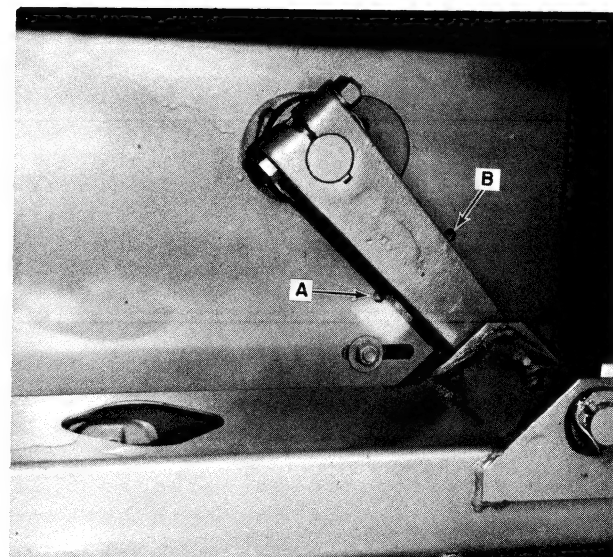
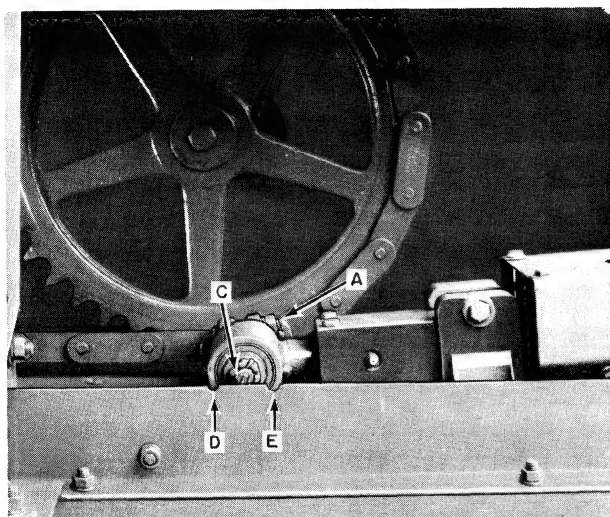
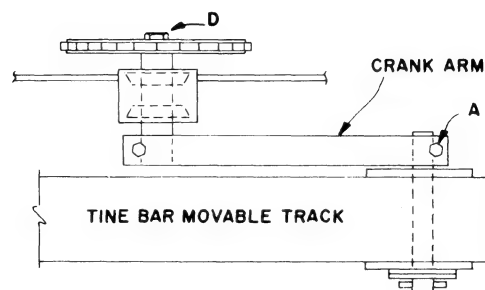

FIGURE 40
FIGURE 44
FIGURE 46
The right end of the tine bar assembly is attached to a crank arm shown in Figure 40. As the tine bar operates the left end follows the drive chain and the right end follows the crank arm.
Turn the flywheel in the direction of rotation until the main crank is in a vertical position between the two marks, A and B, Figure 43. At this time the tine bar drive pin, C, Figure 44, should be between the two timing marks at D and E, on the rear feeder support angle.
If the tine bar driven pin is not between the timing marks as shown in Figure 44, the tine bar assembly is out of time and must be retimed.
4. Move the tine bar into the position shown in Figure 44.
The crank arm must be timed in relationship to the tine bar. When the tine bar drive pin is in the position shown in Figure 44, the crank arm must be in the position shown in Figure 40, between timing marks, A and B. If it is not, remove feeder crank drive chain shown in Figure 38, rotate crank arm to proper position and reinstall chain and tension drive chain.
If the tine bar and the movable track are removed, the tine bar should be removed from the tine bar drive chain by removing the cross bolt, A, Figure 44, from the tine bar drive pin and leaving the pin in the tine bar. The right end should be removed by removing the cross bolt from the movable track pin at A, Figure 46, and leave the crank arm on the baler. **The crank arm should not be removed because the pre-load will be changed on crank arm shaft bearings.** If the pre-load is not correct, it can be adjusted by tightening or loosening the nut, D, Figure 46, so there is 4-6 in. lbs. (0.1-0.7 N·m) of pre-load on bearings shown in Figure 46.